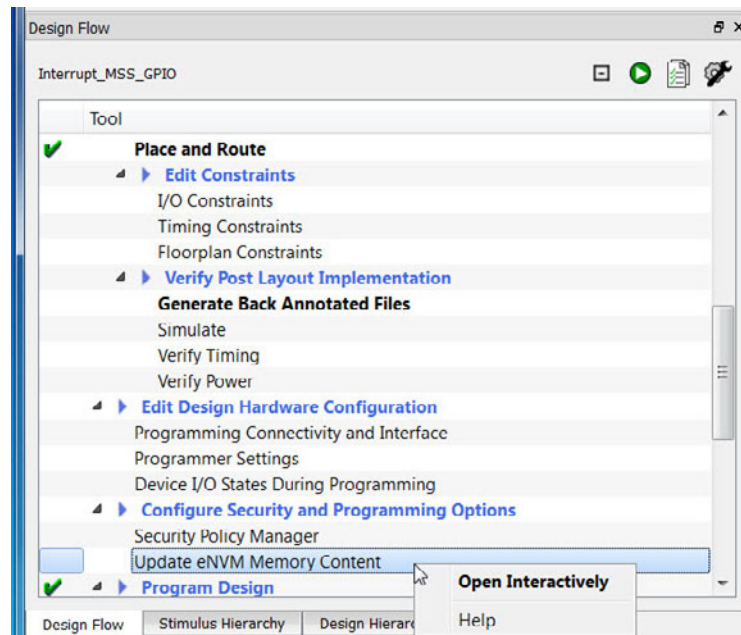

Figure 6-19 • Update eNVM Memory Content
1. From the Libero SoC Design Flow window, right-click **Update eNVM Memory Content** and choose **Open Interactively** (Figure 6-19).